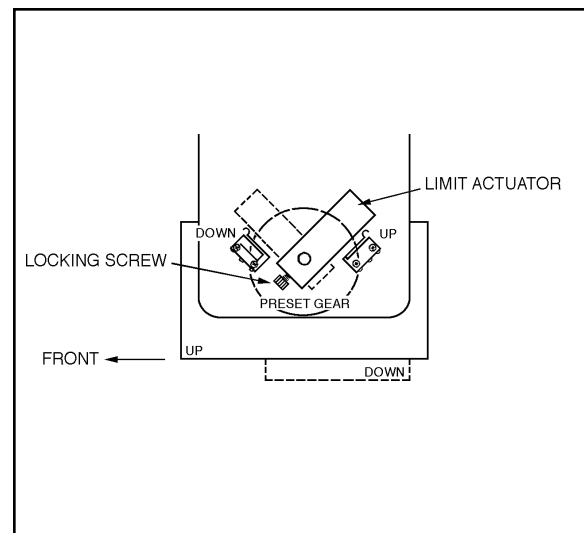

Figure 11. Tilt Limit Stop Modifications
5. To alter the factory-set tilt limit, bend the actuator stops on the micro switches. Move the tilt table to the desired position and adjust the actuators until the switch clicks, lock into position (see Figure 11).